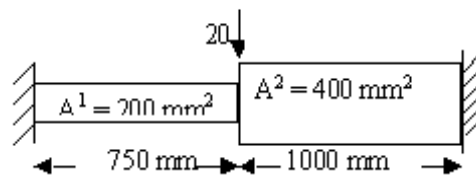

Figure 6
4. Calculate the deflection at the center of the fixed beam as shown in the figure6.